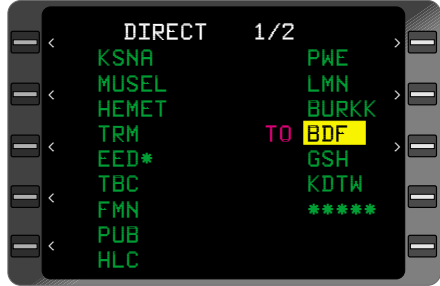

Figure 3-132
2. Line Select Key - DEPRESS to position cursor over desired waypoint. (Figure 3-132)